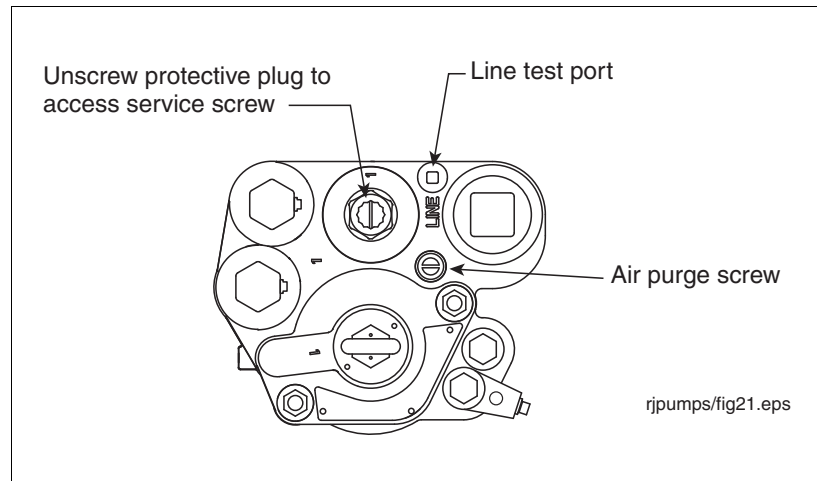

Figure 43. Service screw, line test port, and air purge screw locations
3. Remove line test port plug (see Figure 43). Apply line test pressure at line test port (50 psi [345 kPa] maximum).
6. Turn the air purge screw 2 - 3 turns counterclockwise (see Figure 43).
1. Remove and retain the protective plug over service screw and turn the screw clockwise (see Figure 43). As the screw approaches its bottom position, you will hear the system depressurizing. Continue turning the screw until it can go no further.
5. Turn the air purge screw 2 - 3 turns counterclockwise (see Figure 43).